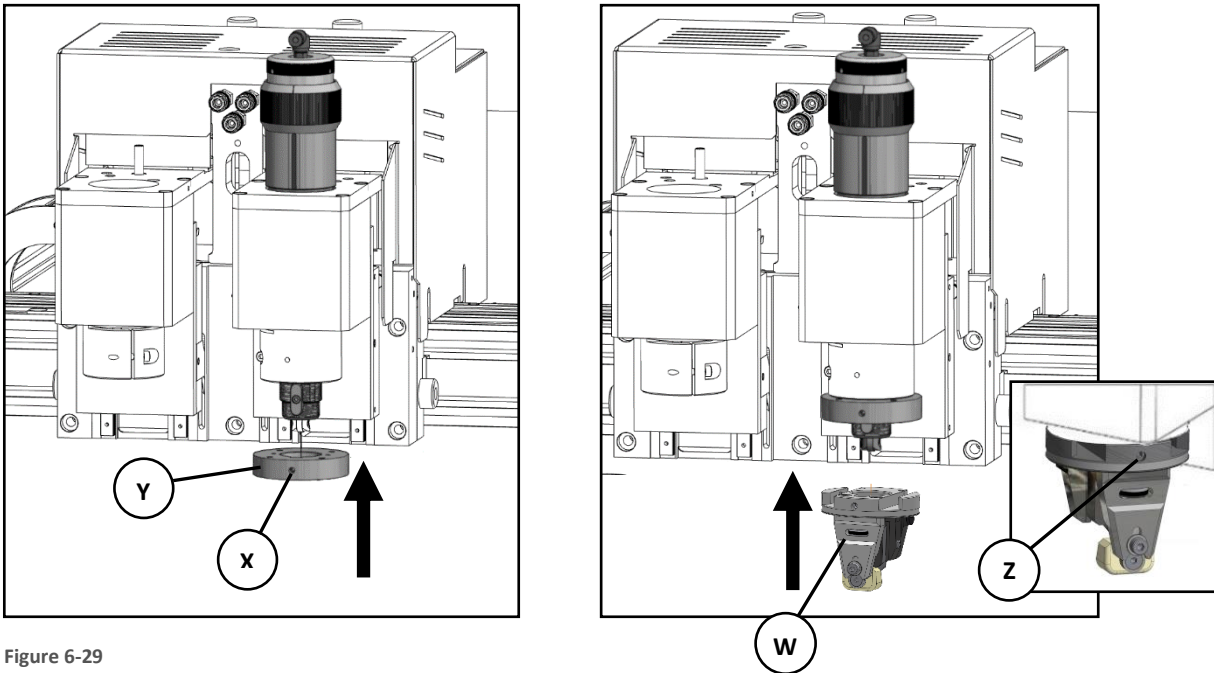

Figure 6-29
When mounting a head (W) on the VersaTool, insert it under magnet holder and when it adheres to the flange, tighten the screw (Z) (Figure 6-29).
- Loosen the screw (Z) (Figure 6-29).
- hold the release tool/fork (1) by its handle and insert it into the slot located in the top part of the head. Holding the tool with one hand support the release fork tool with the other, insert into the head slot (2) and give it a slight knock to free the head.
- This will detach the interchangeable head from the retaining magnets, and it will remain attached to the magnets of the release tool (3)